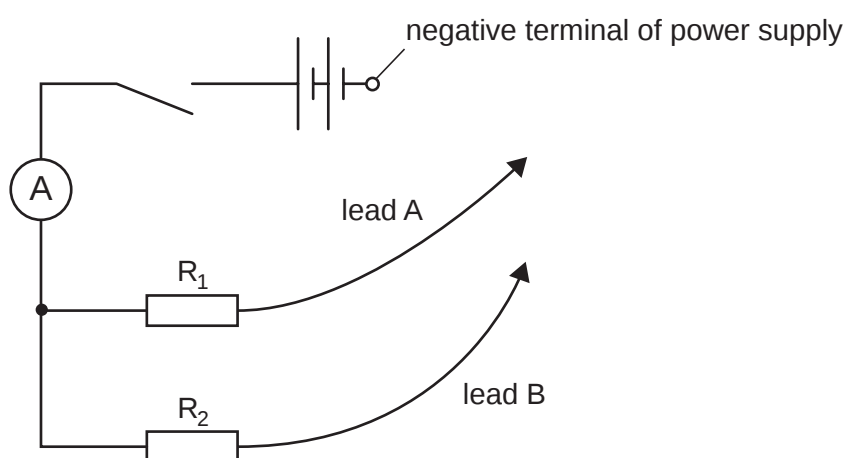

Fig. 3.1
Six connecting leads to enable the Supervisor to set up the arrangement shown in Fig. 3.1.
1. When the Supervisor sets up the arrangement as shown in Fig. 3.1, the lead connected to the $10\ \Omega$ resistor should be labelled A and the lead connected to the $18\ \Omega$ resistor should be labelled B.
4. At the changeover, Supervisors should check that the arrangement is still set up as shown in Fig. 3.1.